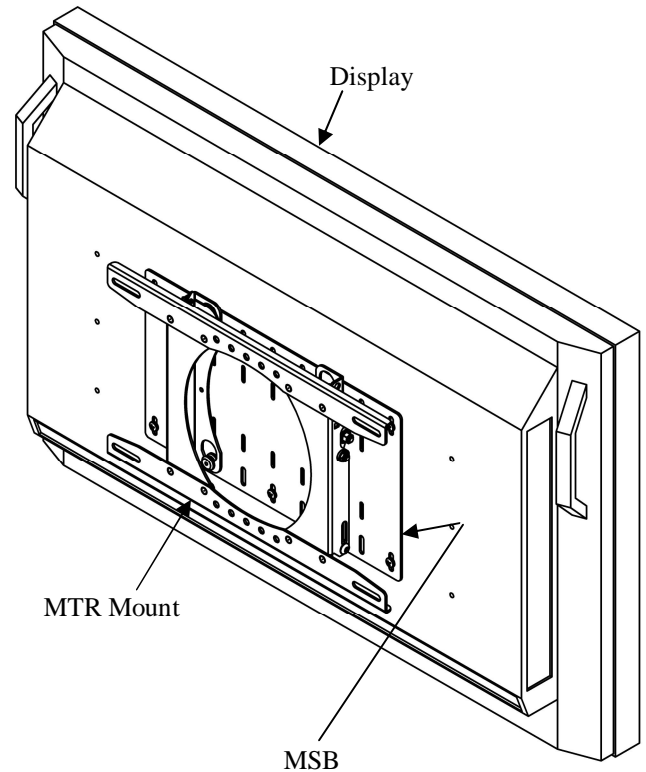

Figure 5. Mount Plasma Tilt Bracket to Wall
1. With the aid of another person, lift the display up to the mount (10) on the wall, aligning mounting buttons on the MSB with the teardrop slots on the mount, and lower the display firmly into place (see Figure 5).